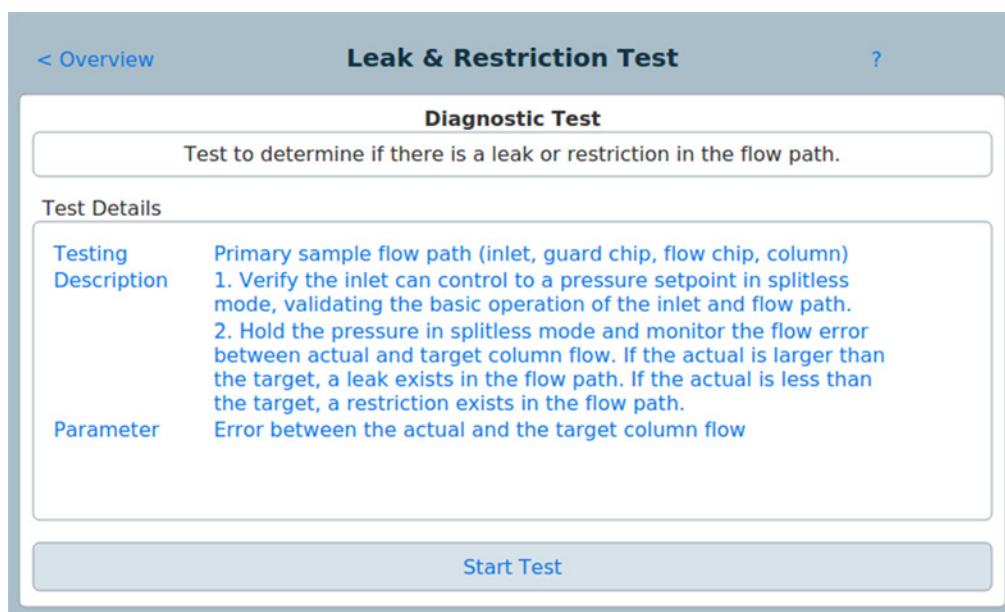

Figure 26 Leak & Restriction Test page
- 2 Press the desired test. The corresponding test page appears. The test page includes a test description and an indication of the parameter being tested. See Figure 26.